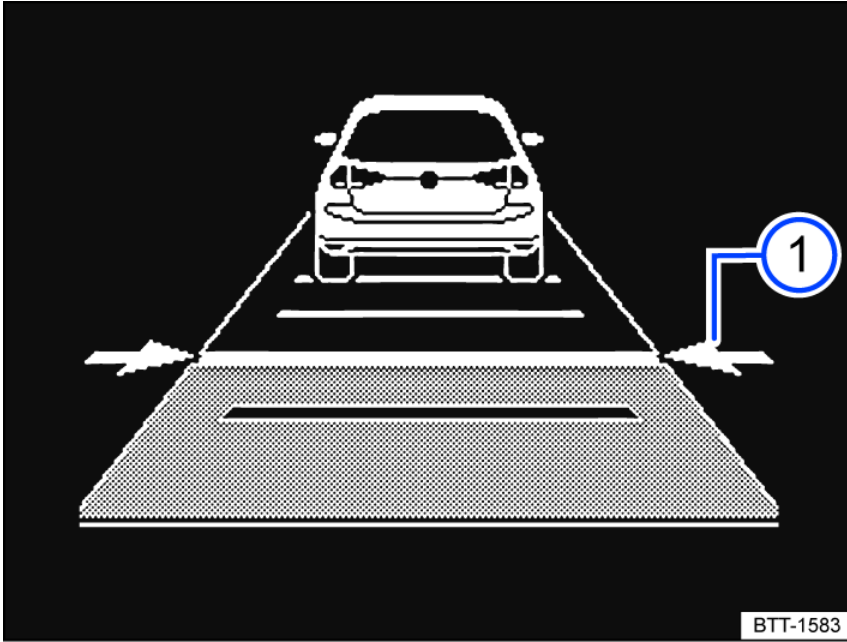

Fig. 113 In the instrument cluster display: set distance ① (general example, ACC is regulating).
The instrument cluster display shows the selected level **fig. 113 ①**. Heed the country-specific regulations for minimum distance.